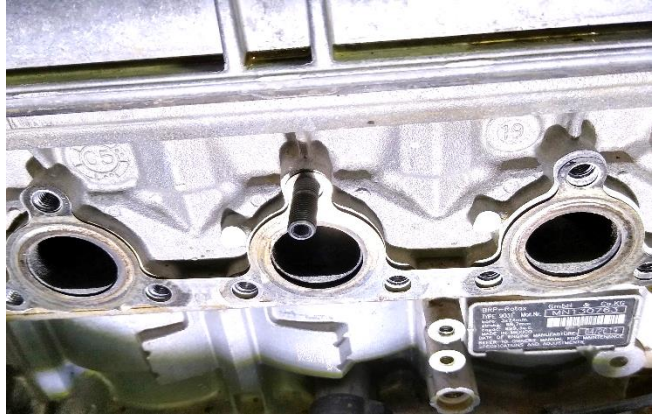

Figure 1
**Step 2:** Install the provided stud into the top hole of the center exhaust port, thread stud in and back it out one full turn (See Fig. 1)